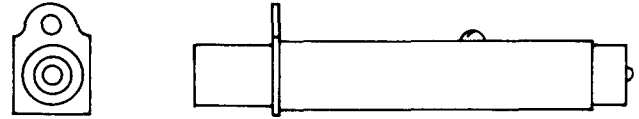

Fig. 17—486A Jack
**2.12 486A**: This single-mounted jack (Fig. 17) has coaxially arranged inner and outer contacts which are mounted in a tubular metal frame. This jack contains a 75 ohm deposited carbon rod resistor mounted coaxially with the outer housing and connected across the coaxial members. The 486A jack is